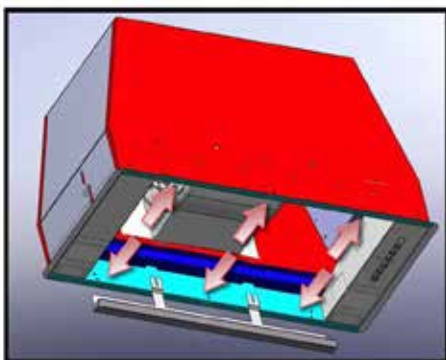

Fig.7
3. Insert the 15mm screws provided into the holes inside the rangehood (Fig.7) to fix it to cabinetry.